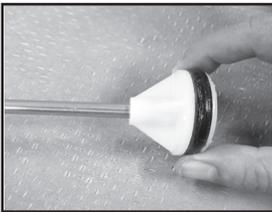

Figure 3
3. Inspect o-ring. If worn or damaged, remove and replace. For Acetone sprayer lubricate o-ring with silicone grease. (See Figure 3)